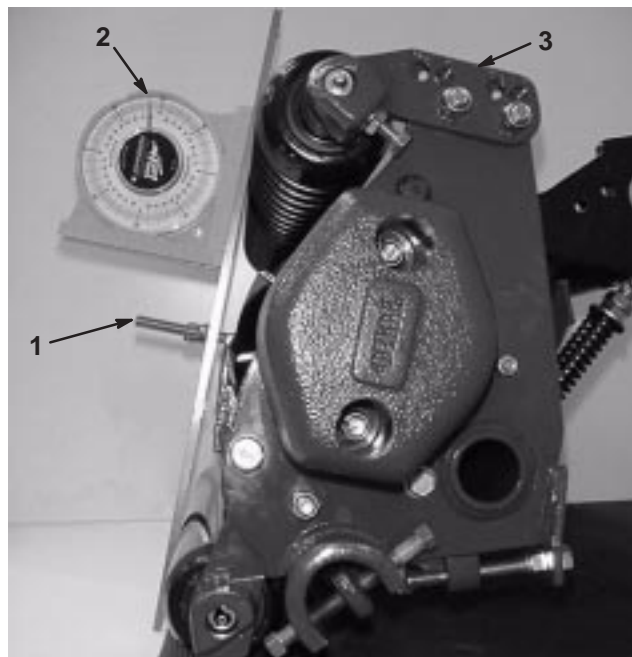

Figure 10
3. Place the gauge bar across the front and rear rollers. The height of cut screw head needs to fit snugly over the edge of the bedknife while the gauge bar contacts the rollers (Fig. 10).
4. Place an angle indicator on the gauge bar and record the gauge bar angle (Fig. 10).
6. For adjusting the cutting unit attitude, change the position of the roller (A, B or C) (Fig. 10).